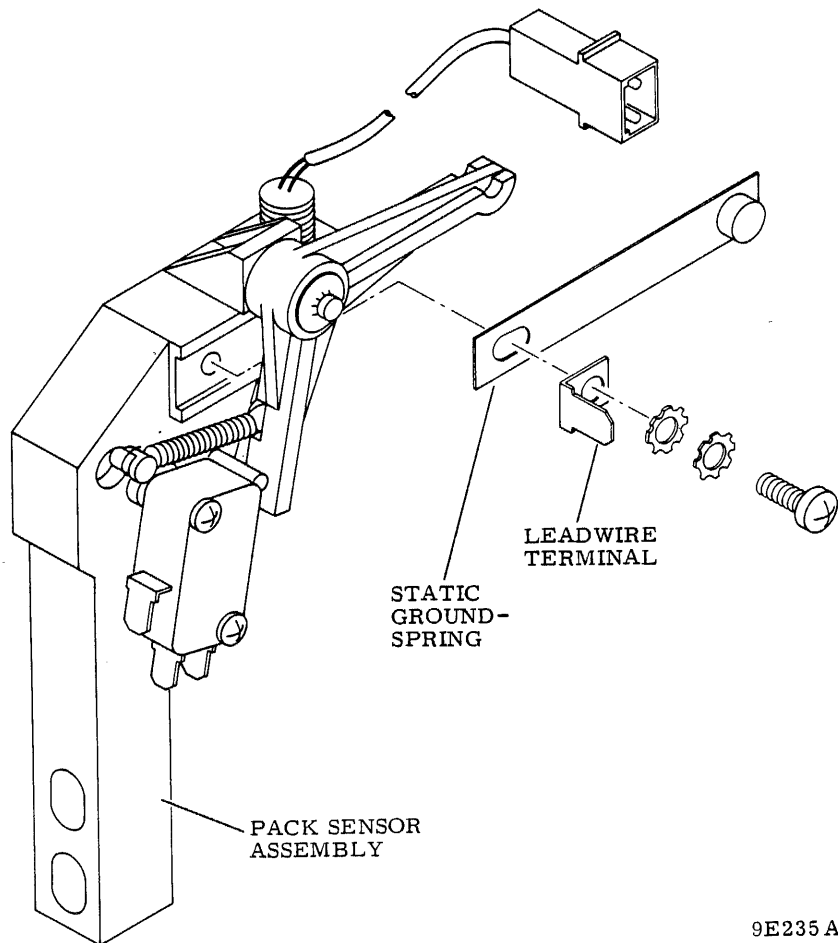

Figure 6-35. Static Groundspring Replacement (S/C 09 and Above)
5. Refer to figure 6-35 and remove static groundspring leadwire.
5. Refer to figure 6-35 and visually check that groundspring is approximately centered on lockshaft.